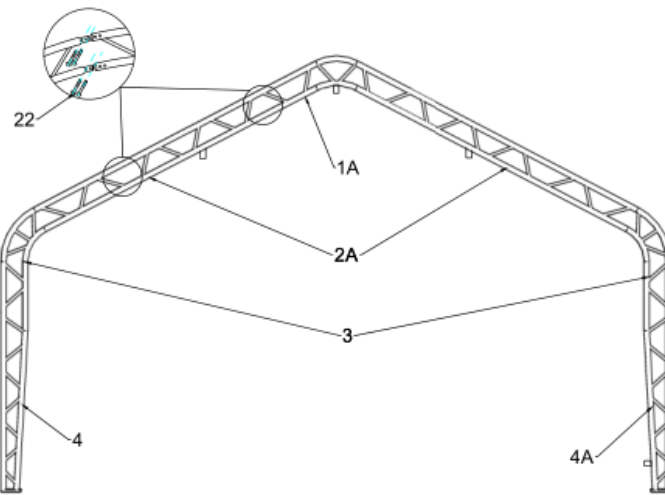
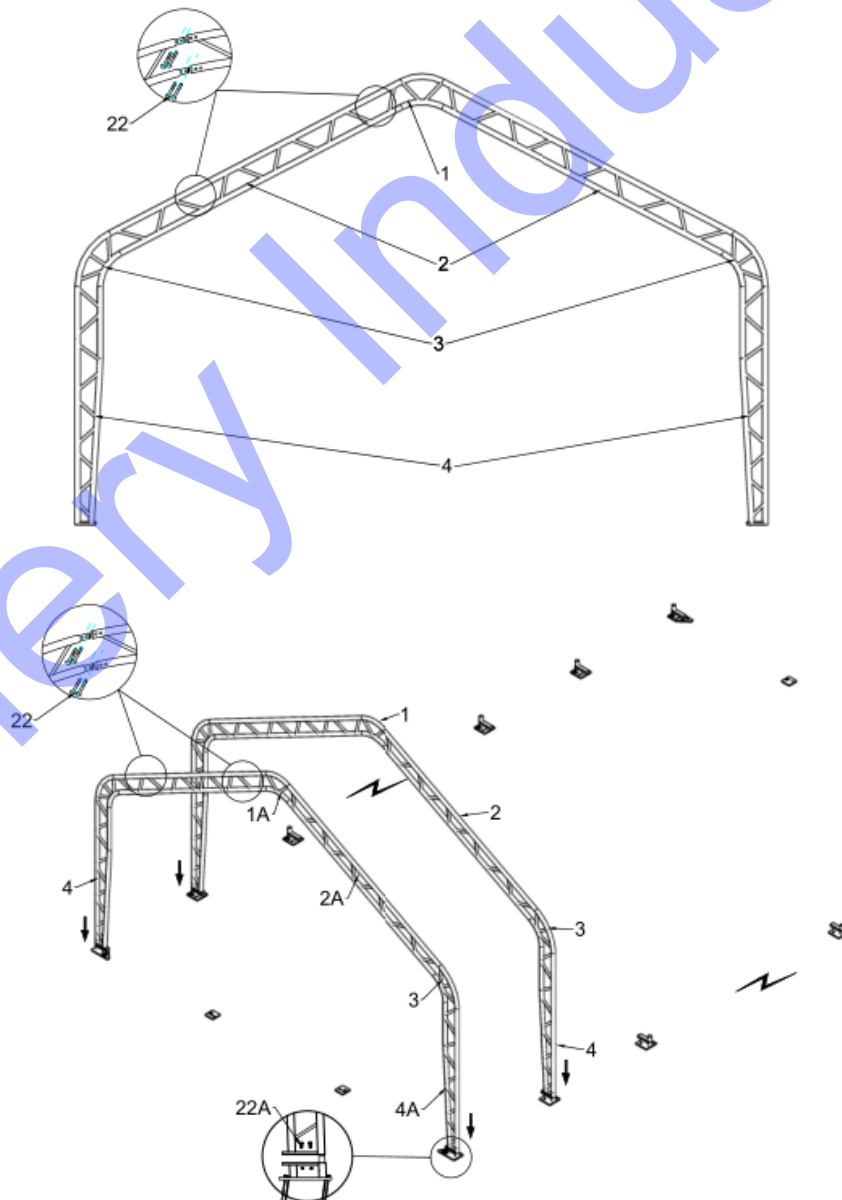
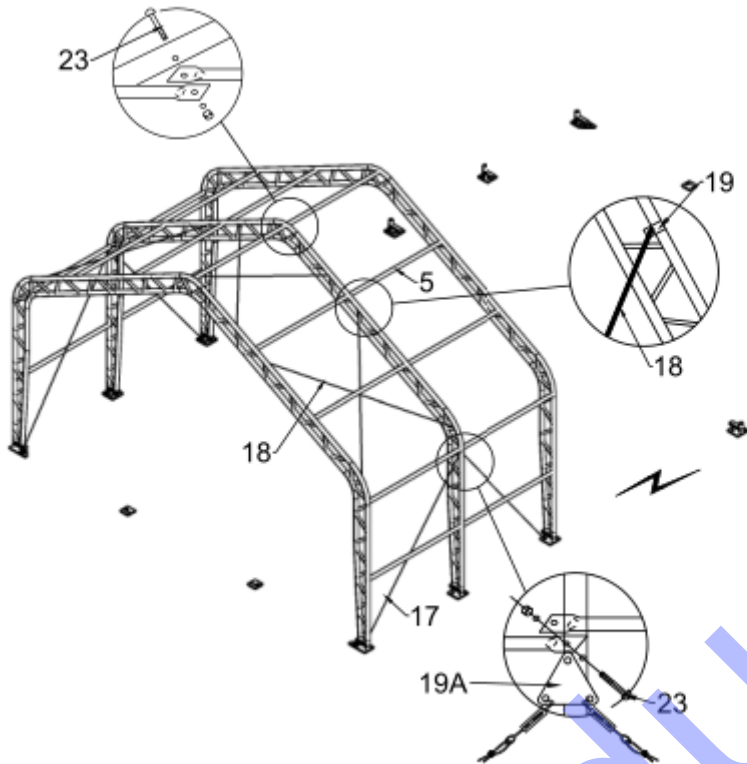

Figure 3
Figure 4
Figure 5
1. Figure 3 shows to connect the Roof bent tube for front and back door (No.1A), Sidewall bent tube for front and back door (No.2A), Shoulder bent tube (No.3), Standing leg (No.4) and Standing leg for front door (No.4A) with Carriage bolt 8x70 (No.22), then put the arch into tube of the Base flange by hoist (see Figure 4)
1. Figure 4 shows to connect the Roof bent tube(No.1), Sidewall bent tube(No.2), Shoulder bent tube(No.3) , and Standing leg(No.4) with Carriage bolt 8x70(No.22), then put the arch into tube of the Base flange by hoist, and assemble every group arch by turns(see Figure 5)
2. Connect Purlin(No.5) to arch by using Carriage bolt 10x80mm (No.23) by turns(see Figure 5),then connect the Steel wire(No.17 and No.18) on top and side by using Clip(No.19) (see Figure 5).